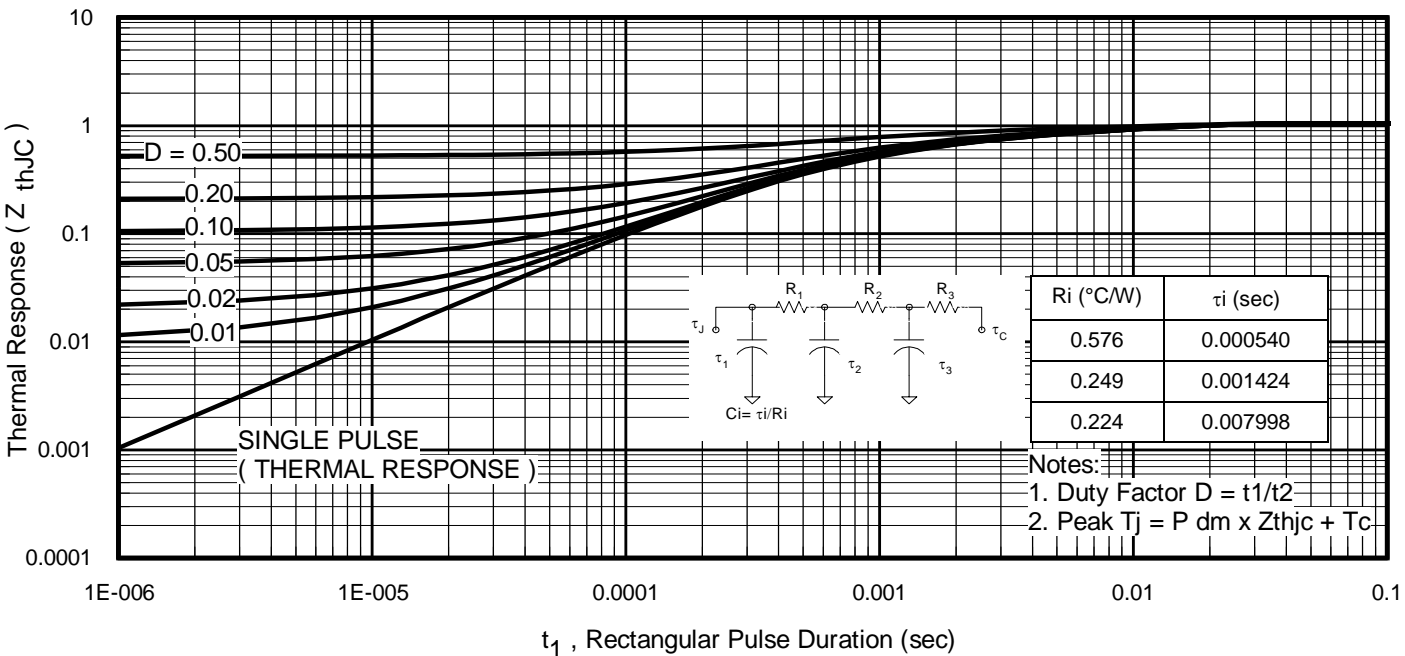
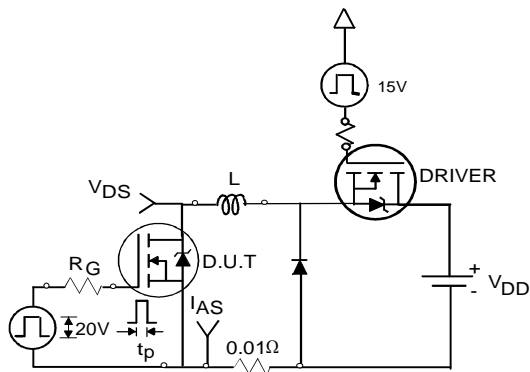

Fig 11. Maximum Effective Transient Thermal Impedance, Junction-to-Case
Fig 12a. Unclamped Inductive Test Circuit
- ① Repetitive rating; pulse width limited by max. junction temperature. (See fig. 11).
- ② starting $T_J = 25^\circ\text{C}$, $L = 0.28mH$, $R_G = 25\Omega$, $I_{AS} = 33A$, $V_{GS} = 10V$. Part not recommended for use above this value.
- ③ Pulse width $\leq 1.0ms$; duty cycle $\leq 2\%$.
- ④ $C_{oss \text{ eff.}}$ is a fixed capacitance that gives the same charging time as C_{oss} while V_{DS} is rising from 0 to 80% V_{DSS}
- ⑤ Limited by T_{Jmax} , see Fig.12a, 12b, 15, 16 for typical repetitive avalanche performance.
- ⑥ This value determined from sample failure population. 100% tested to this value in production.
- ⑦ When mounted on 1" square PCB (FR-4 or G-10 Material). For recommended footprint and soldering techniques refer to application note #AN-994.
- ⑧ Refer to D-Pak package for Part Marking, Tape and Reel information
3. Equation below based on circuit and waveforms shown in Figures 12a, 12b.
$Z_{thJC}(D, t_{av})$ = Transient thermal resistance, see figure 11)